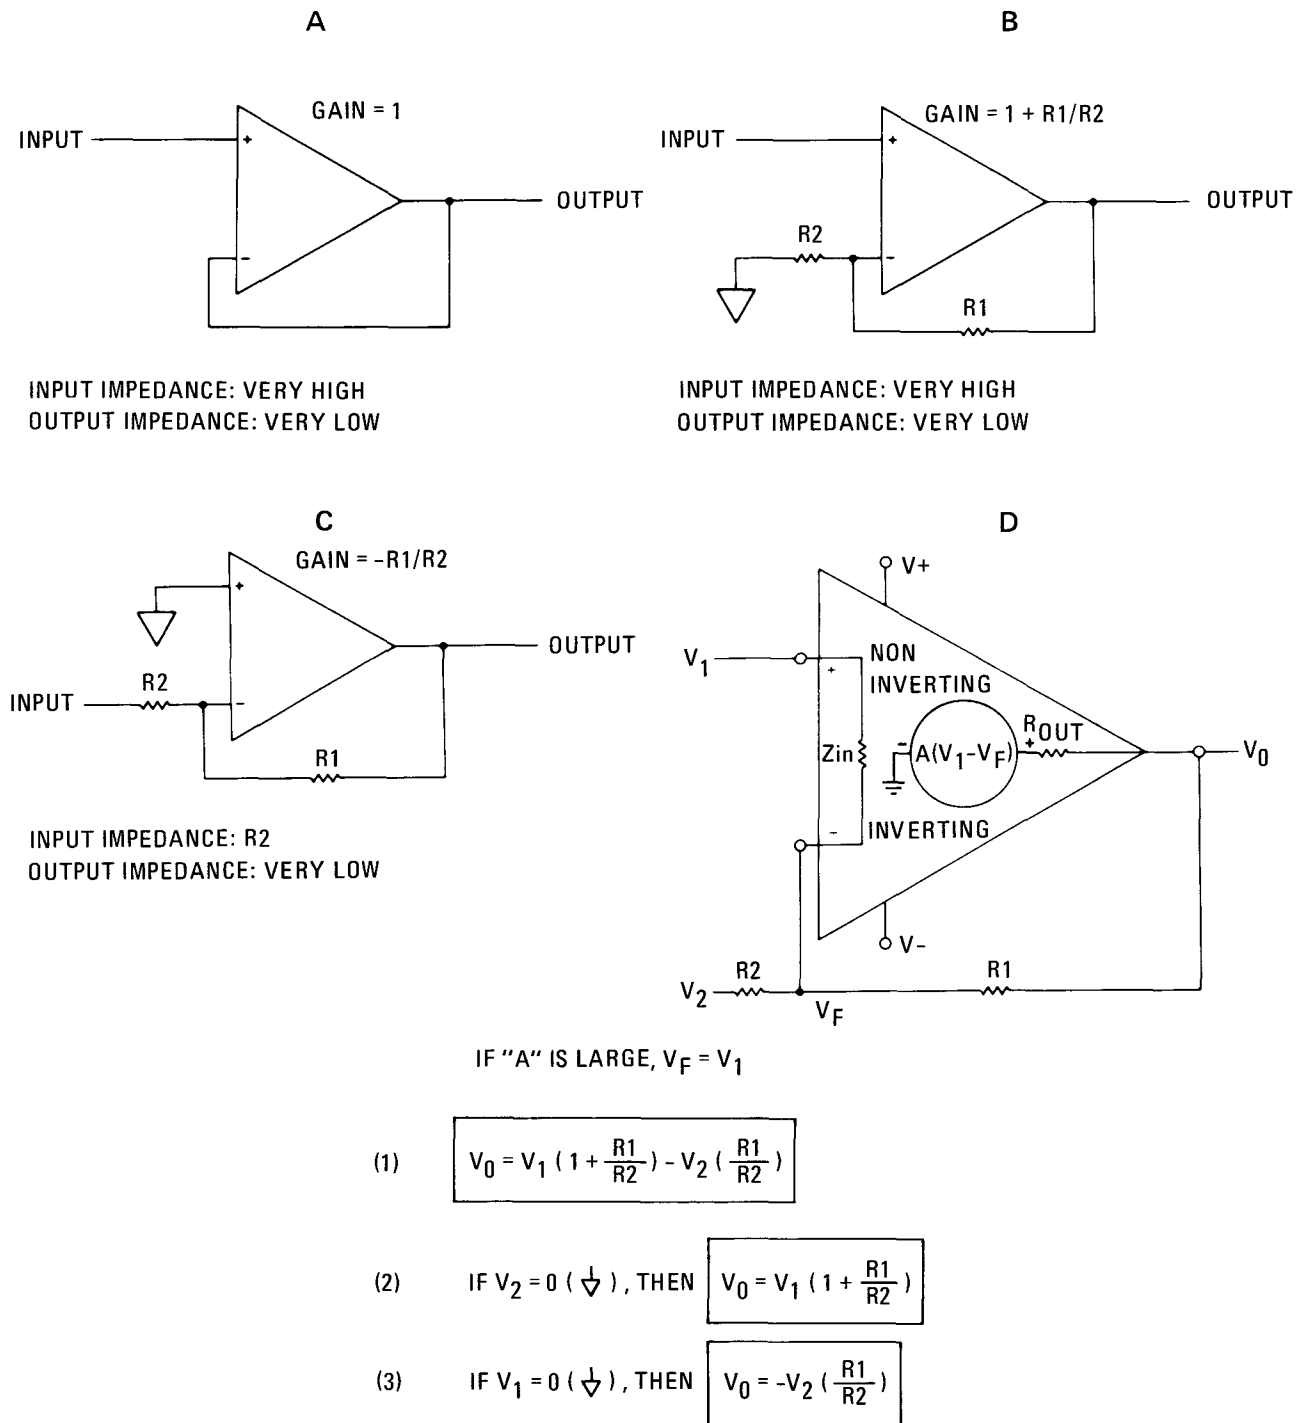

Figure 8-2. Operational Amplifier Equivalent Circuit
**8-32. Operational Amplifiers Function.** Operational amplifiers are used to provide such functions as summing and offsetting voltages, as buffer amplifiers, detectors, and in power supplies. The particular function is determined by the external circuit connections. Equivalent circuit and functional diagrams for typical operational amplifiers are contained in Figure 8-2. Circuit A is a non-inverting buffer amplifier with gain of one. Circuit B is a non-inverting amplifier with gain determined by the resistance of R1 and R2. Circuit C is an inverting amplifier with gain determined by R1 and R2, with the input impedance equal to R2. Circuit D contains the functional